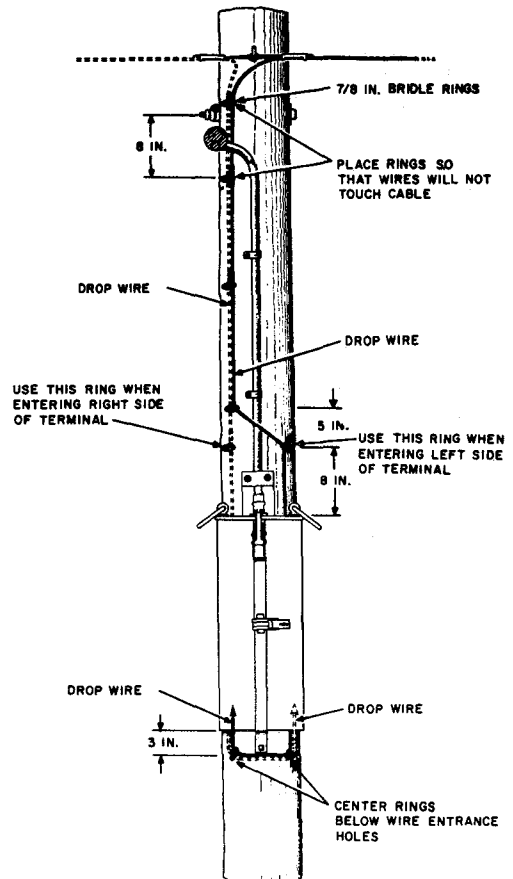

Fig. 2—Running Drop Wire
- (a) Place the bridle rings on the pole as shown in Fig. 2.
- (b) Where a drop wire is to be terminated on the right side of the terminal chamber, run the wire down the right side of the pole behind the terminal, through the two rings below the terminal, and into the wire entrance holes on the bottom left of the terminal box. The routing is shown in Fig. 2. Where the drop wire is to be terminated on the left side of the terminal chamber, run the wire down the left side of the pole behind the terminal, through the two rings below the terminal, and into the wire entrance holes on the bottom right of the terminal box (Fig. 2).